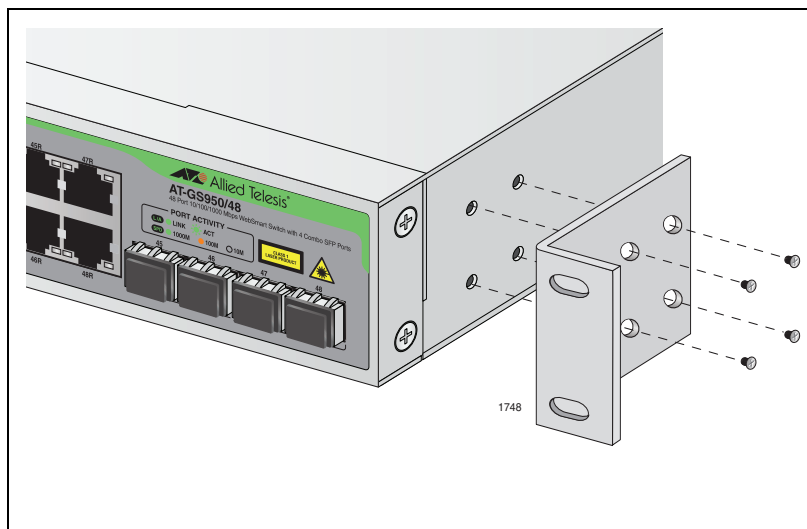

Figure 9. Attaching the Rack-Mount Bracket
2. Install a bracket on one side of the switch using a Phillips screwdriver and four of the rack-mount screws included with the switch, as shown in Figure 9